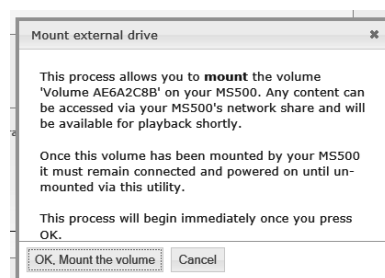

Figure 40
1. Start the Mount process by clicking on the button “OK, Mount the volume” (Figure 40). During the “Mount” functioning, various messages will appear in the window indication the “Mount status”. Refer to figure 46.